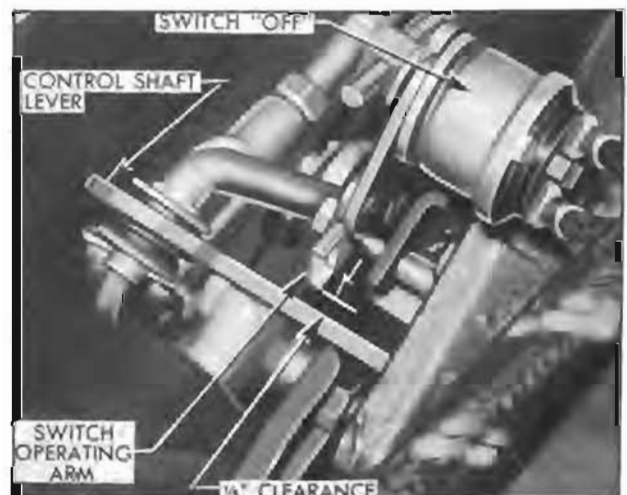

Figure 11-5—Position of Switch Operating Arm in Second Speed
4. Place transmission gear shift lever in second speed position and check clearance between end of switch operating arm and rear edge of control shaft lower lever. The clearance will be approximately  $\frac{1}{8}$ " if switch is properly adjusted. See figure 11-5.